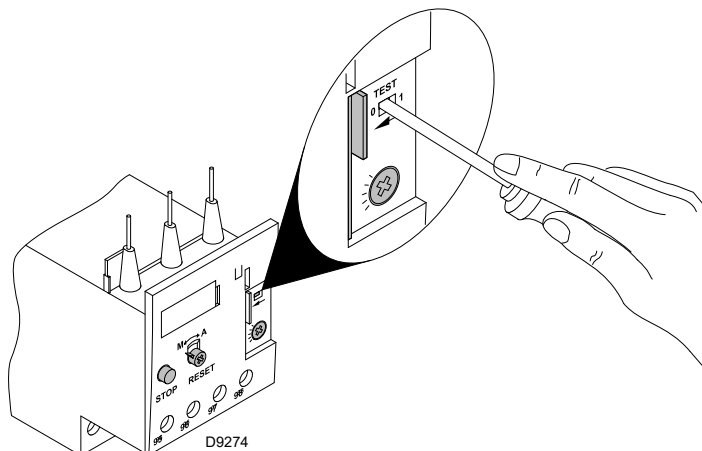

Fig. 38
- To test the overload relay, insert a screwdriver in the window “TEST” (Fig. 38) and move it in the sense of the arrow (towards right).